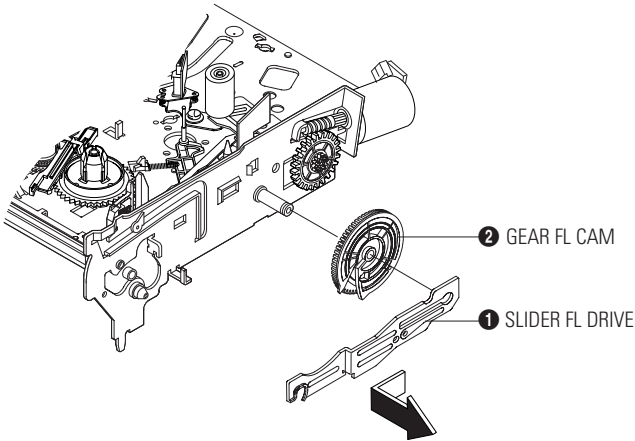

Fig. 3-13 Slider FL Drive Removal
- 1) Pull the Slider FL Drive ❶ to the front direction.
- 2) Remove the Slider FL Drive ❶ in the direction of arrow. (Refer to Fig. 3-13)
- 3) Remove the Gear FL cam ❷.